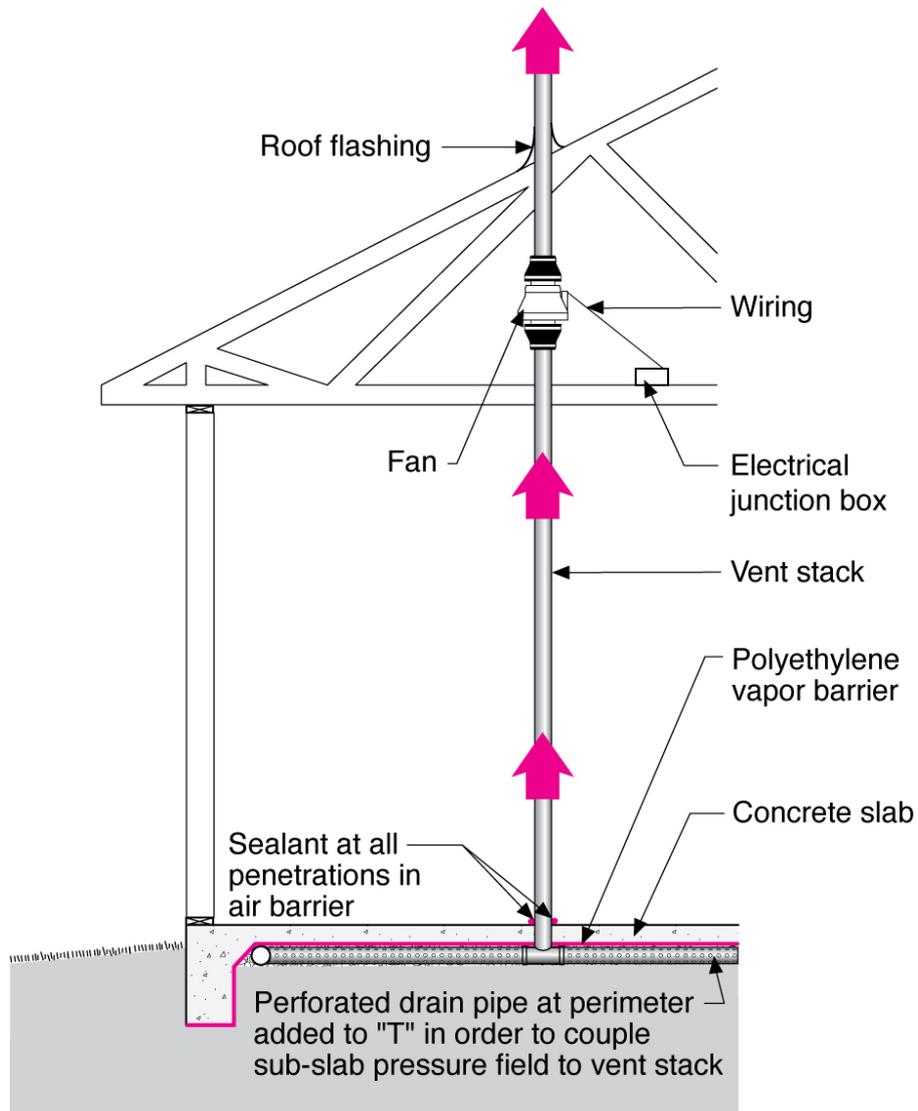

Figure 1. Radon fan - slab-on-grade construction (image courtesy of BSC).
1. Select the location for the ventilation pipe (min. 3” in dia.). It should be installed in a vertical run through a warm part of the house and exhausted through the roof. See Figure 1. The pipe should discharge at least 2 feet above the roof and 10 feet away from any openings in the building to keep the soil gas from re-entering the building.